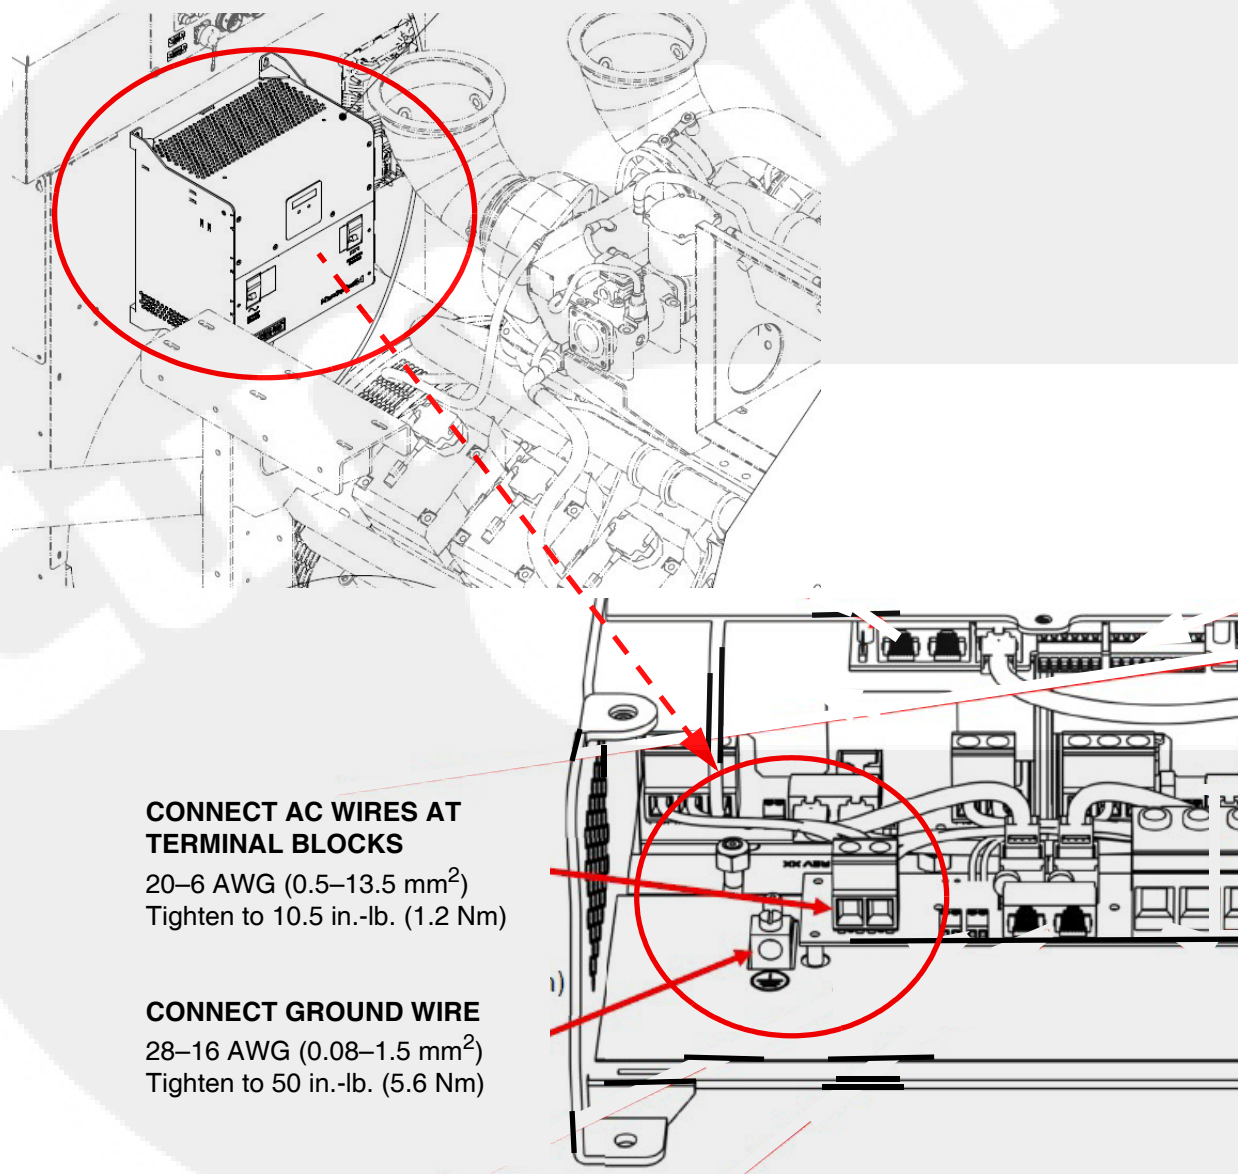

Figure 4-11 Battery charger installation (behind the back of the GenSet)
2. Connect the AC line and neutral conductors to the AC input terminal block/breaker in the charger (see Figure 4-11). If there is an identified grounded circuit conductor (neutral), attach it to the terminal marked "L2/N." Route the AC wiring at least ¼ inch (6 mm) away from DC wiring, alarm wiring, and the circuit board. Tighten the electrical connections to the specifications shown in the figure.